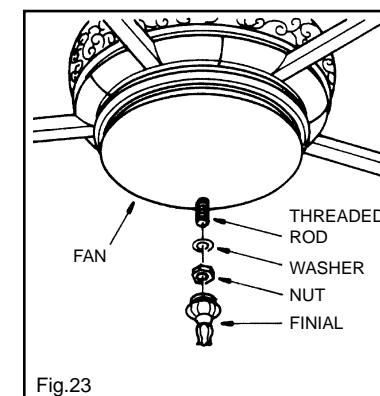

Fig.23
**Step 5.** Install glass shade over the threaded rod and secure in place by replacing the washer, nut and finial previously removed. (Fig. 23)